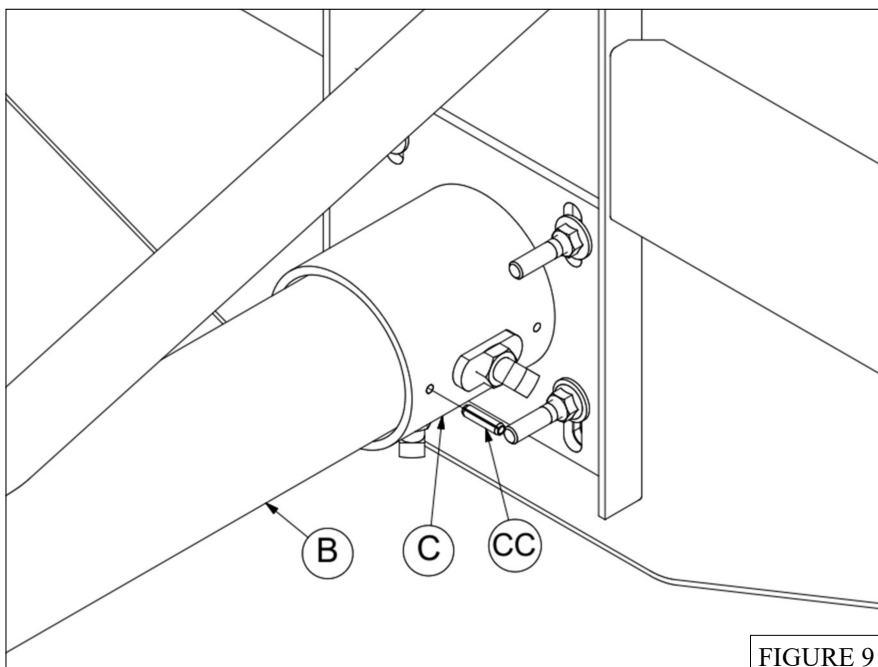

FIGURE 9
13. Drill a 1/4" diameter hole into the *Extension Arm (B)* using the pilot hole in the *Backboard Mounting Adaptor (C)* as a guide. Insert 1/4" x 1" *Roll Pin (CC)* with a hammer to reduce risk of rotation or movement. See Figure 9.